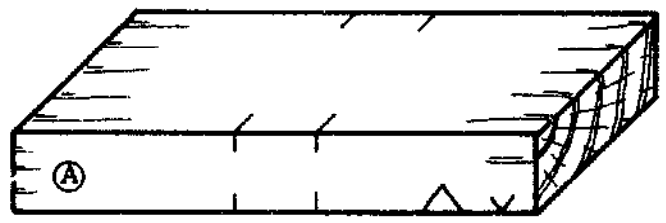

Fig. 3
- Take piece A and mark out the position of the mortice on the face edge and make square lines on the edges on both sides with the try square (Fig. 3).